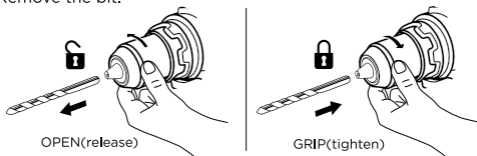

Fig. 7
- b. Insert a clean bit up to the drill-bit flutes for small bits, or as far as it will go for large bits. Close the chuck by rotating the chuck body clockwise and securely tighten it by hand (Fig. 7).